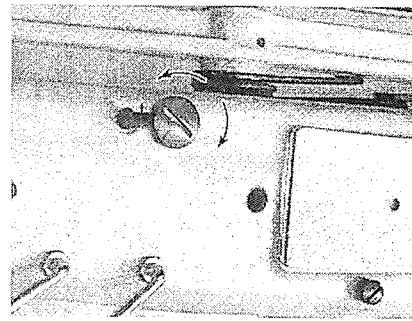

Fig.19
12. ADJUSTMENT OF THE PRESSURE (Fig. 19)